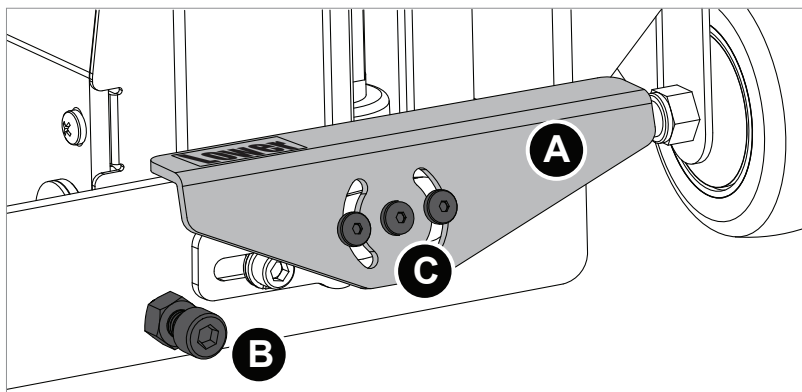

Fig. 4
1. Loosen the three screws (C) in the release lever with a 3 mm hex key (see Fig. 4). Do not remove the screws. Once the three screws are loose, the release lever will rotate around the center screw.
- Remove the three screws in the release lever (**C**) (see Fig. 4).